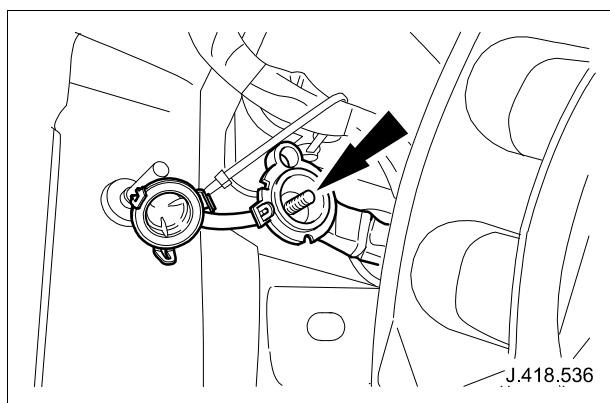

Fig. 24
- 5.2 Check power lead connection B03/B04 (located under front right-hand wheel arch liner), as shown in Fig. 24. (Torque tighten to $12\text{Nm} \pm 1.8\text{Nm}$)